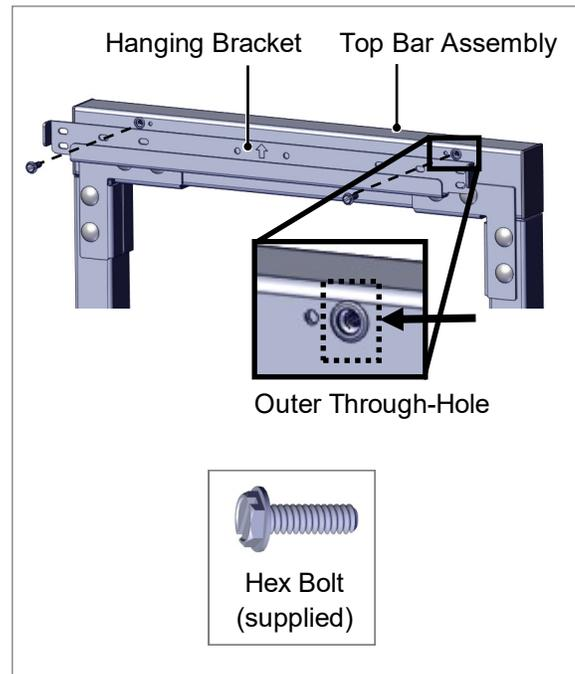

Fig 8. Attach the Hanging Bracket (SENSEI™ and I-Series Models).
Using two (2) Hex Bolts (supplied), attach the hanging bracket (supplied with tankless water heater or boiler) to the *outer* through-holes on the left and right sides of the Top Bar Assembly (Fig 8).